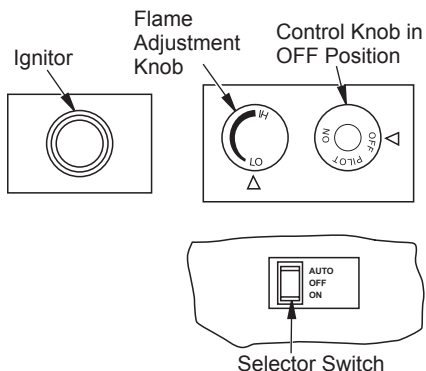

Figure 42 - Control Knob, Ignitor Button and AUTO/OFF/ON Switch
4. Press in and turn control knob clockwise  to the OFF position (see Figure 42, page 25).
5. Wait five (5) minutes to clear out any gas. Then smell for gas, including near the floor. If you smell gas, STOP! Follow "B" in the safety information, column 1. If you don't smell gas, go to the next step.